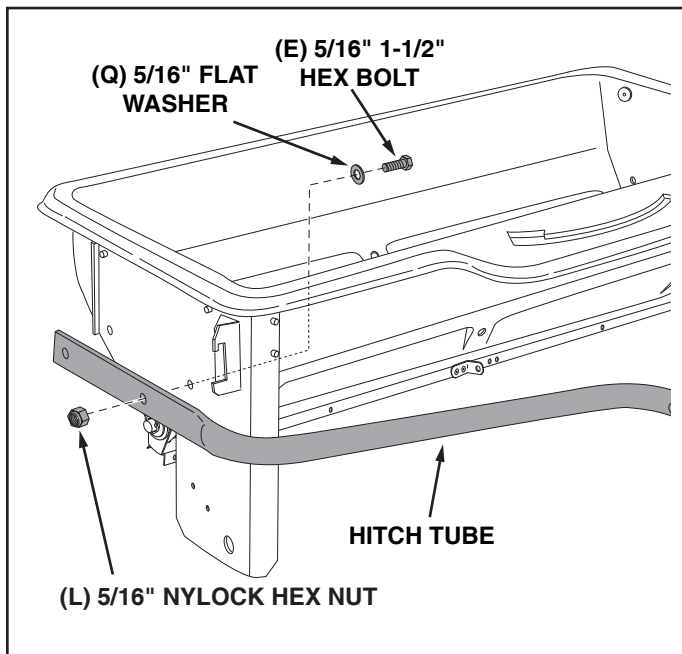

FIGURE 1
2. Attach a hitch tube to the front hole in the right hand side of the hopper using a 5/16" x 1-1/2" hex bolt, a 5/16" flat washer and a 5/16" nylock hex nut. Assemble the bolt and washer from inside the hopper. **Do not tighten yet.** See figure 1.
11. **Tighten, but do not overtighten** the two 5/16" x 1-1/2" hex bolts assembled in figure 1.